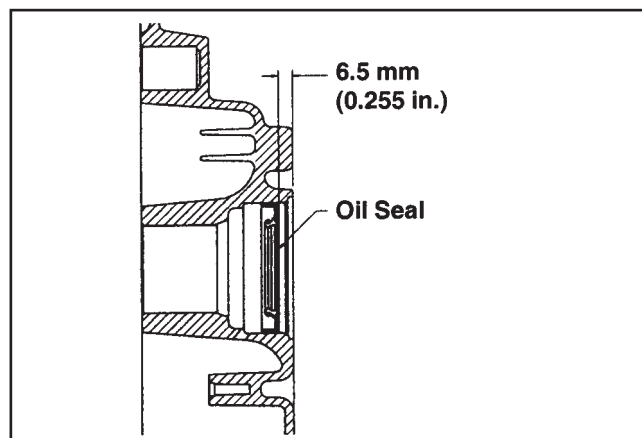

Figure 10-18. Oil Seal Depth in Oil Pan.
3. Drive the oil seal into the oil pan using a seal driver. Make sure the oil seal is installed straight and true in the bore, to the depth shown in Figures 10-18.